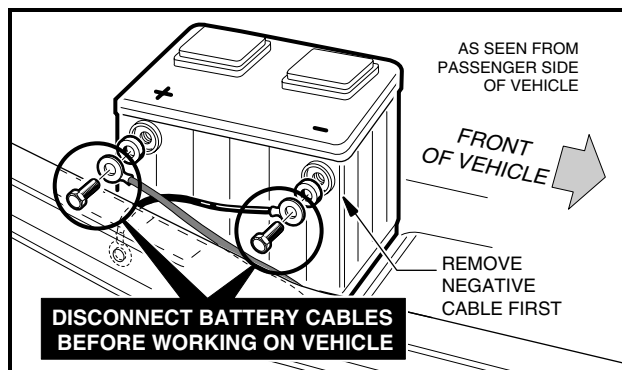

Figure 1 Battery Cable Removal
- Disconnect battery cables, negative (–) cable first (Figure 1, Page 8).